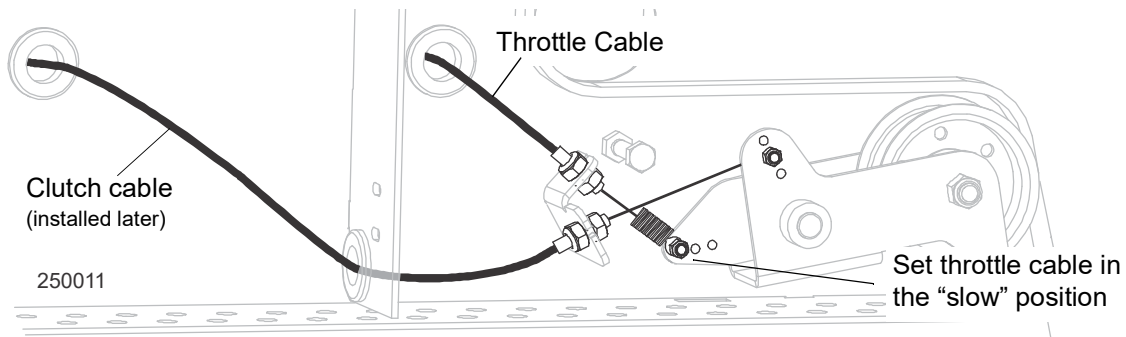

FIG. 3-24
5. Attach the throttle cable to the clutch. See Fig. 3-24.